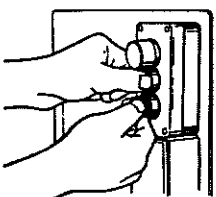

Figure 5
■ Elevate up/down functions should **not** operate (figure 5).